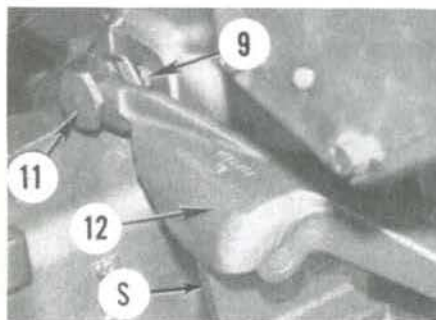

Fig. 156—View of differential lock pedal (12), clevis (11) and locknut (9) used on Orchard models and MF250 models. Refer to text for adjustment.
Orchard models and MF250 models, pedal (12—Fig. 156) should be against stop (S) when released. If not against stop, loosen locknut (9) and turn clevis (11) until pedal arm just contacts stop (S). Tighten locknut (9) after adjustment is complete.